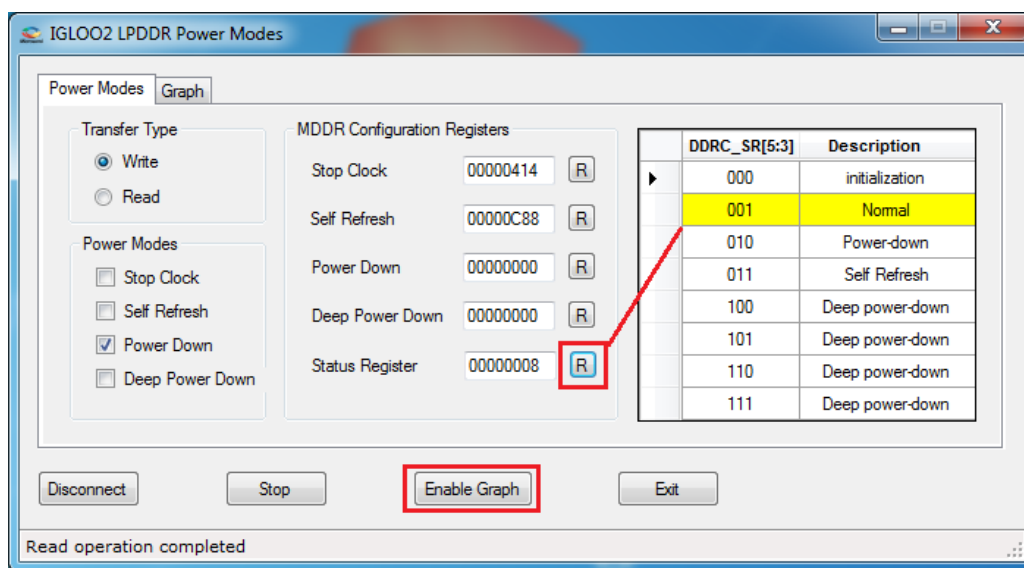

Figure 20 • Normal Mode after Exiting Power Down Mode
11. Click Status Register **R**. Figure 20 shows the normal mode after exiting the power down mode.
12. Click **Enable Graph** as highlighted in Figure 20 on page 22.